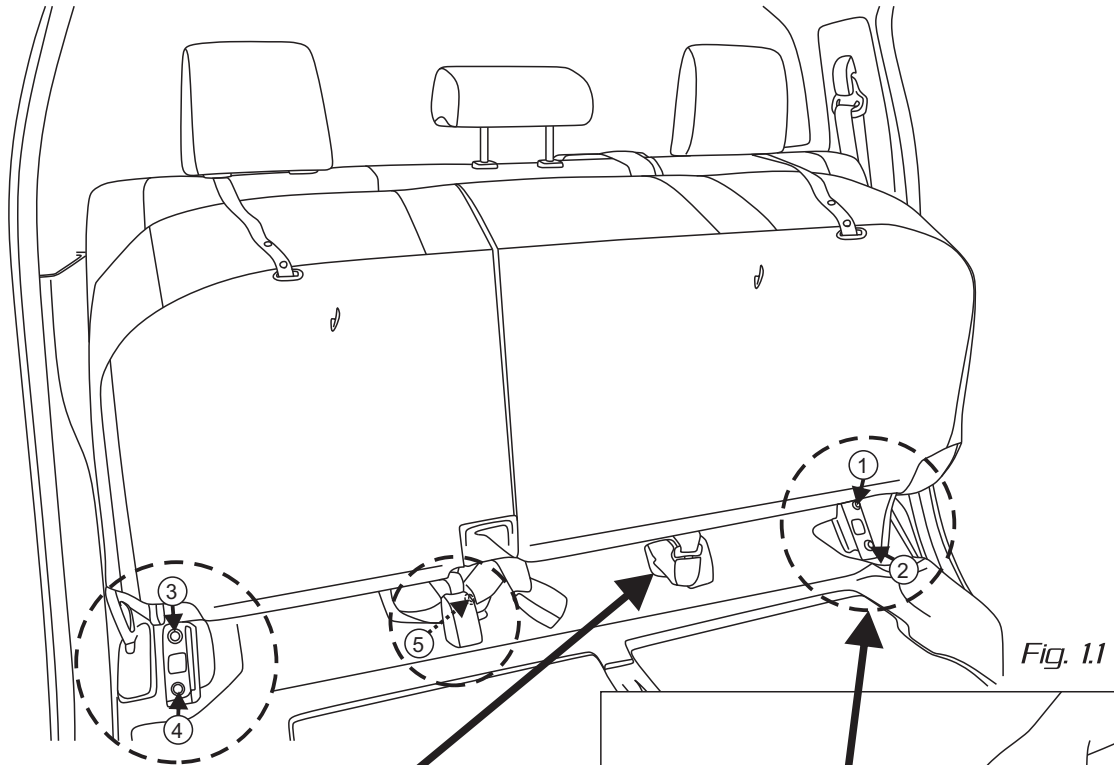
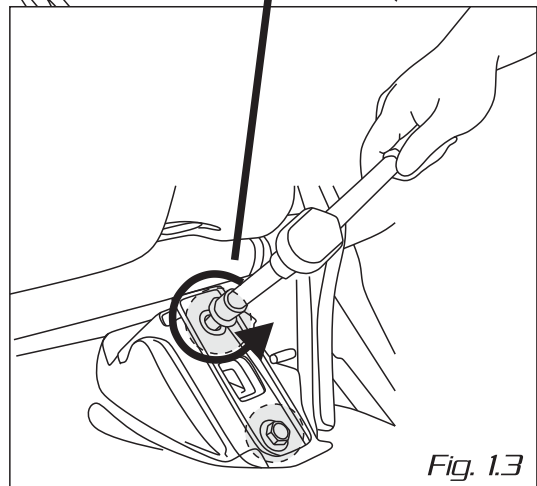

Fig. 1.1
Fig. 1.3
1. Lift both seat bases up (Fig. 1.1).
Remove 5 bolts (Locations shown in Fig 1.1) from both sides of seat (Fig 1.3).